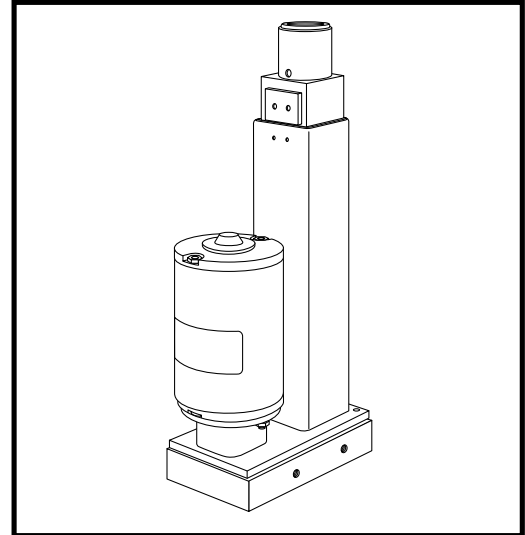

Figure 11. Power Seat Actuator
1. Align the seat shaft to the hole in the actuator. See figure 11.